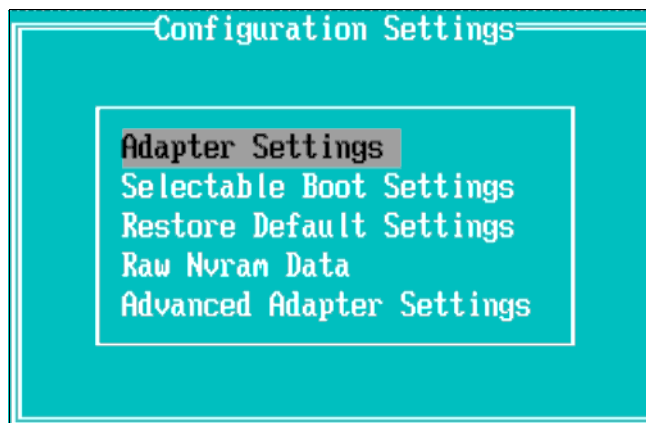

Figure 2-17 Selection of Adapter Settings
4. Select **Adapter Settings** to see the settings of the adapter that you have selected, as shown in Figure 2-17.